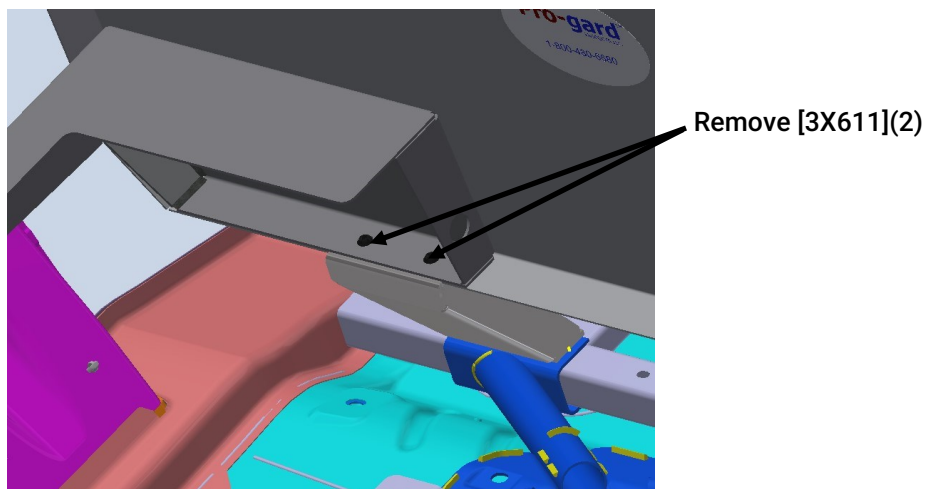

Figure 6
- If installing with existing Barrier, remove (2) [3X611] 5/16-18 x 7/8" bolts securing Barrier to Barrier Support Bracket (See Figure 6).
- Insert (2) [3X611] screws and tighten.